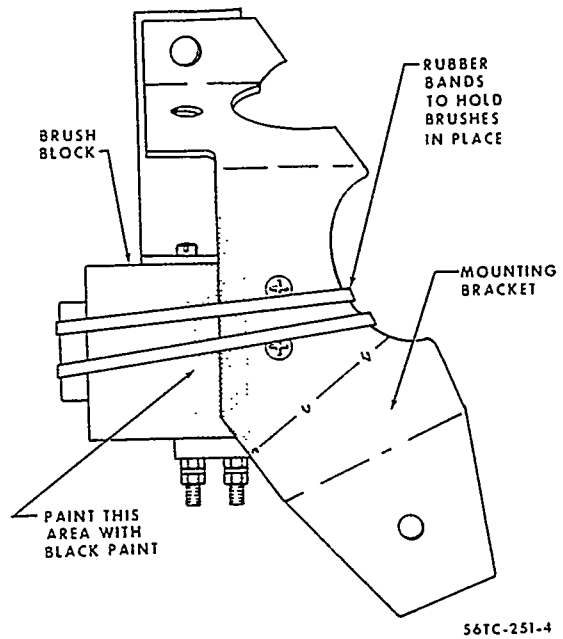

Figure 11-5A. Marking Location of Brush Block
- Clean the brush block and mounting bracket. Paint the side of the brush block and the edge of the mounting bracket as shown in Figure 11-5A with black paint.
n. Carefully push the brushes back into the brush block and secure them in place with a rubber band. (See Figure 11-5A).